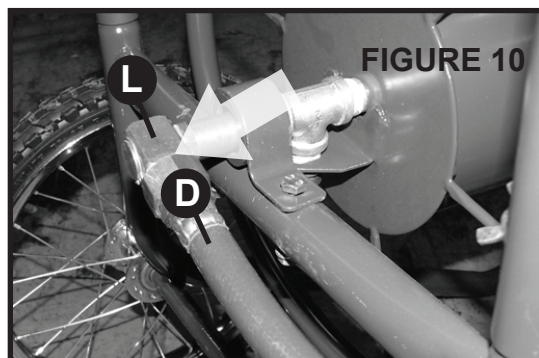

FIGURE 10
10. Attach the leader hose (D) to the end of the brass swivel (L). **DO NOT OVER TIGHTEN.** See Figure 10